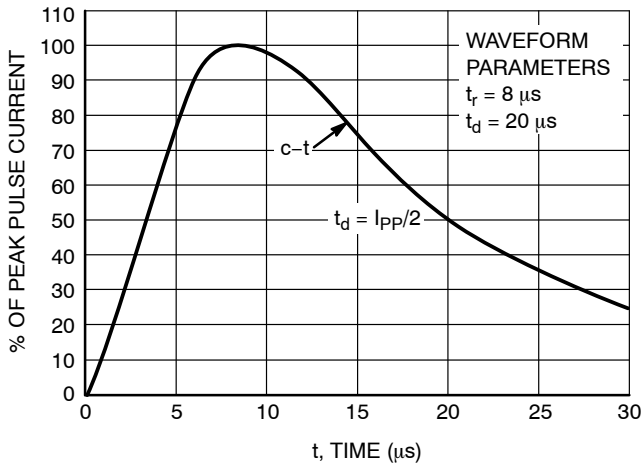

Figure 1. Pulse Waveform, 8x20 μs
1. Non-repetitive current pulse per Figure 1.
4. Pulse waveform per Figure 1.